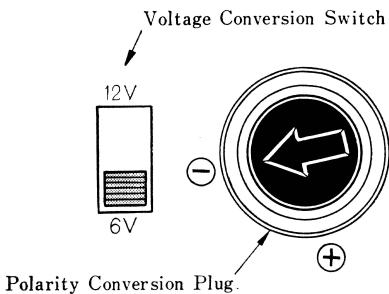

Fig. 4-1
1. Negative battery terminal grounded: Fig. 4-1